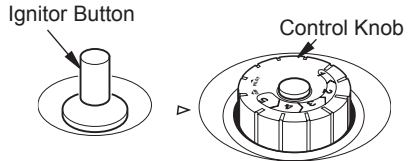

Figure 22 - Control Knob In The OFF Position (Piezo Ignitor Shown)
3. Turn thermostat control knob clockwise to the OFF position (see Figure 22).
5. Turn thermostat control knob counter-clockwise to the pilot position. Press in thermostat control knob for 5 seconds (see Figure 22).
6. Keep thermostat control knob pressed in while pushing down and releasing the ignitor button (see Figure 22). This will light pilot. If necessary, continue to press ignitor button until pilot lights.